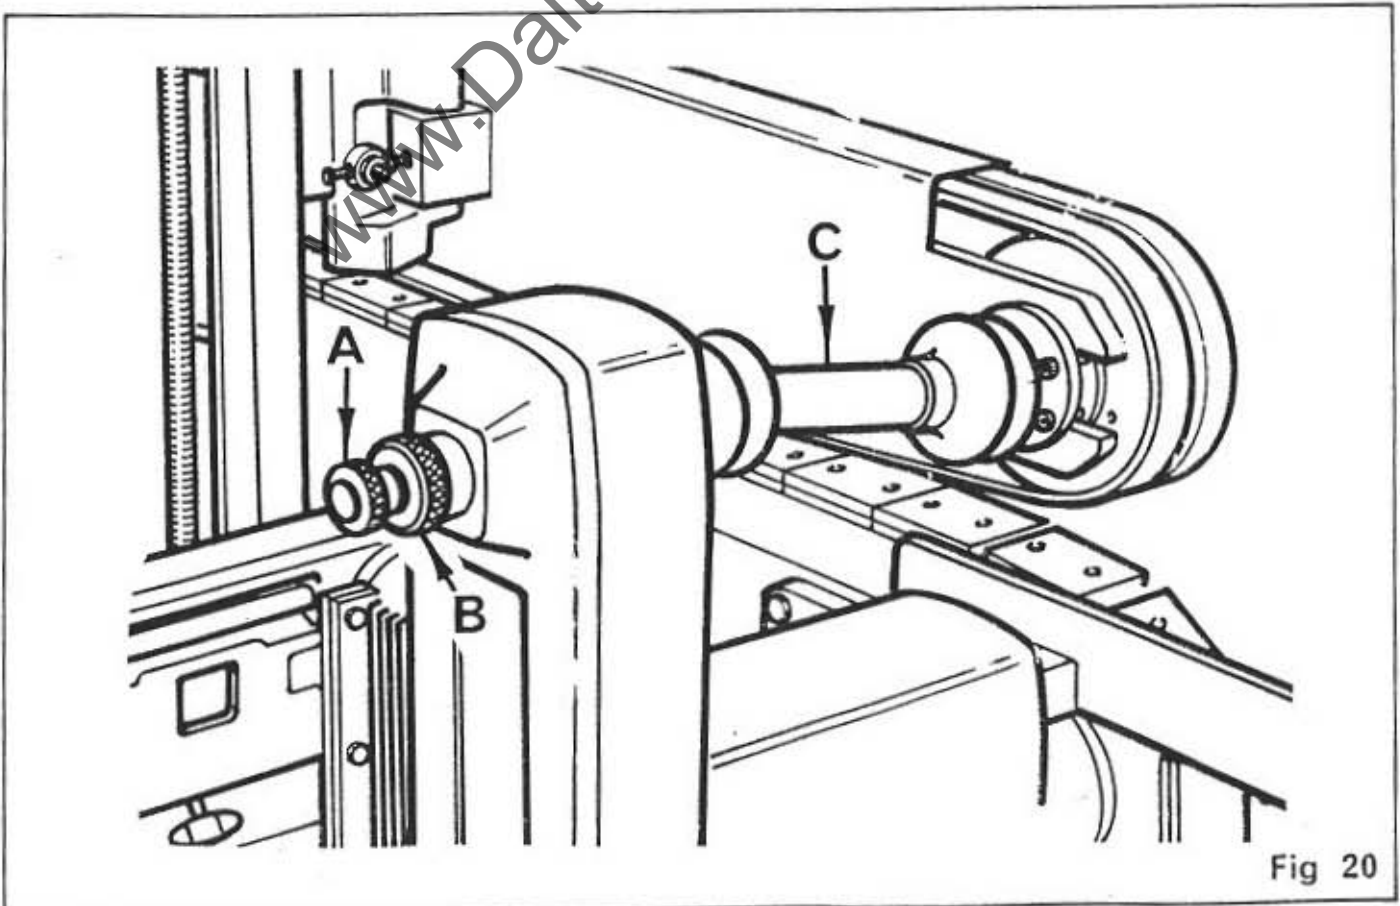

Fig 20
A. When feeding timber against front of dogs (ie with dogs pushing timber) the drive to the pressures should be released by loosening the knurled locking handwheels "A" in FIG 20 then releasing drive by knurled handwheels "B". Relock handwheels "A".